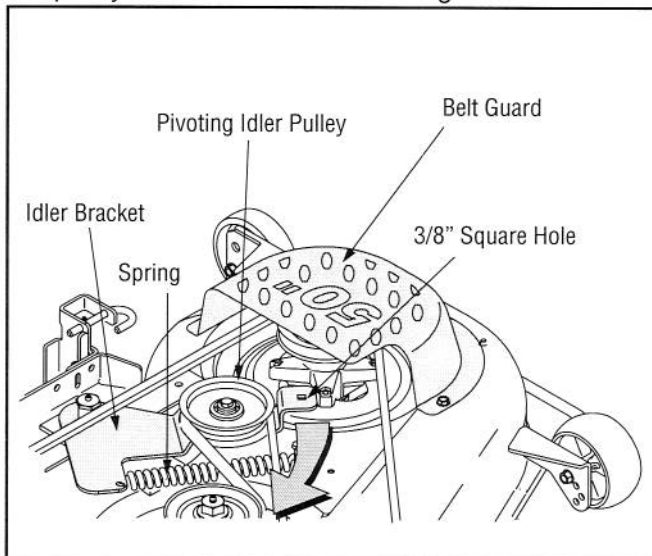

Figure 22
- To ease in removing the belt, loosen, but do not remove, the bolt which secures the pivoting idler pulley to the idler bracket. See Figure 22 ..
- Insert a 3/8"-drive ratchet wrench (set to *tighten*) into the square hole found in the idler bracket on the left side of the deck's surface. See Figure 22 .